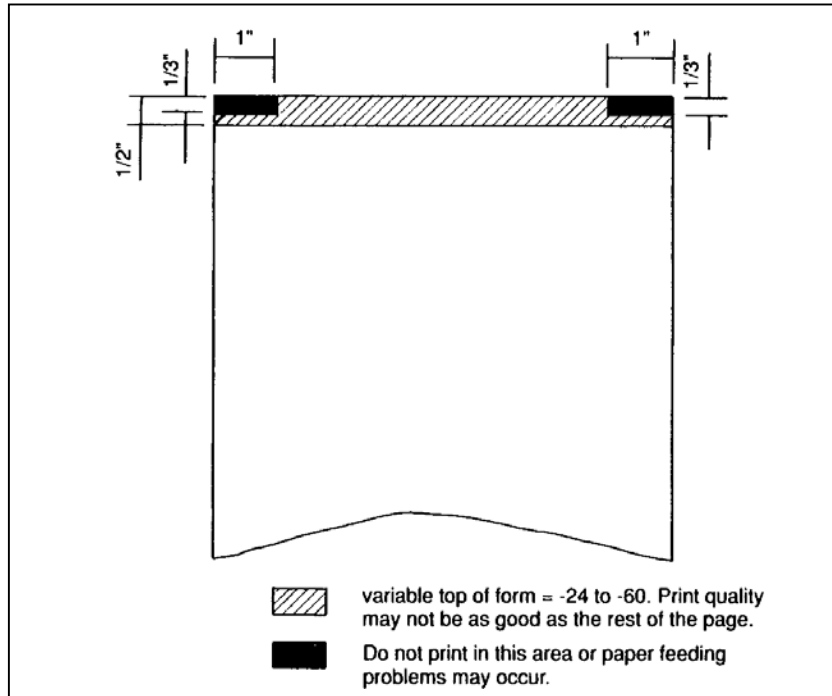

Figure 3-14. Extend the variable top of form setting.
- \* Do not print in the first or last 1 inch {10 characters at 10 cpi} of the first two lines of the page as shown in Figure 3-14.